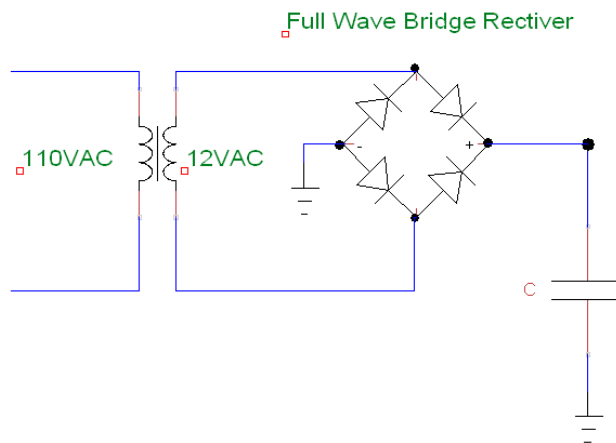

Figure 7. Standard Linear Power Supply
- D1. Wire up the circuit (Figure 7), to include just the transformer and the bridge rectifier. Look at the output of the just the bridge rectifier with the scope (referenced to the ground side of the bridge).